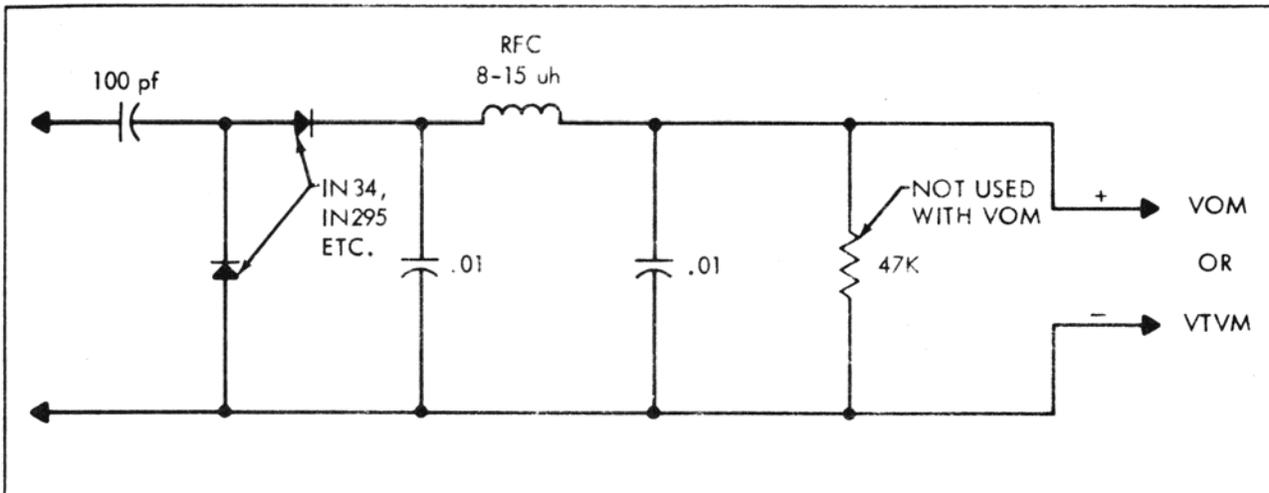

Figure 4-4 RF Probe
- a. Connect a VOM, through an RF probe, across R71 in the emitter of Q15. If no probe is available, one may be fabricated as shown in Figure 4-4.